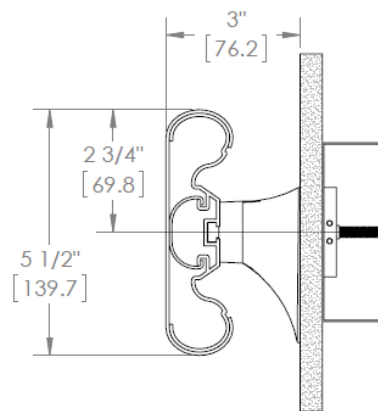

Figure 2
The factory recommends using back up channels at stud wall conditions (see Page 3, Figure 2).
**STEP 1.** Using the correct plans, layout guides and local code requirements layout and mark the location of the handrail on the wall at the appropriate height above the finished floor. Measure 2-3/4" down from the desired top of the handrail and mark this location at each end of the run (See Figure 2). Snap a chalk line, or use a laser level to mark the height of the standoff fasteners.